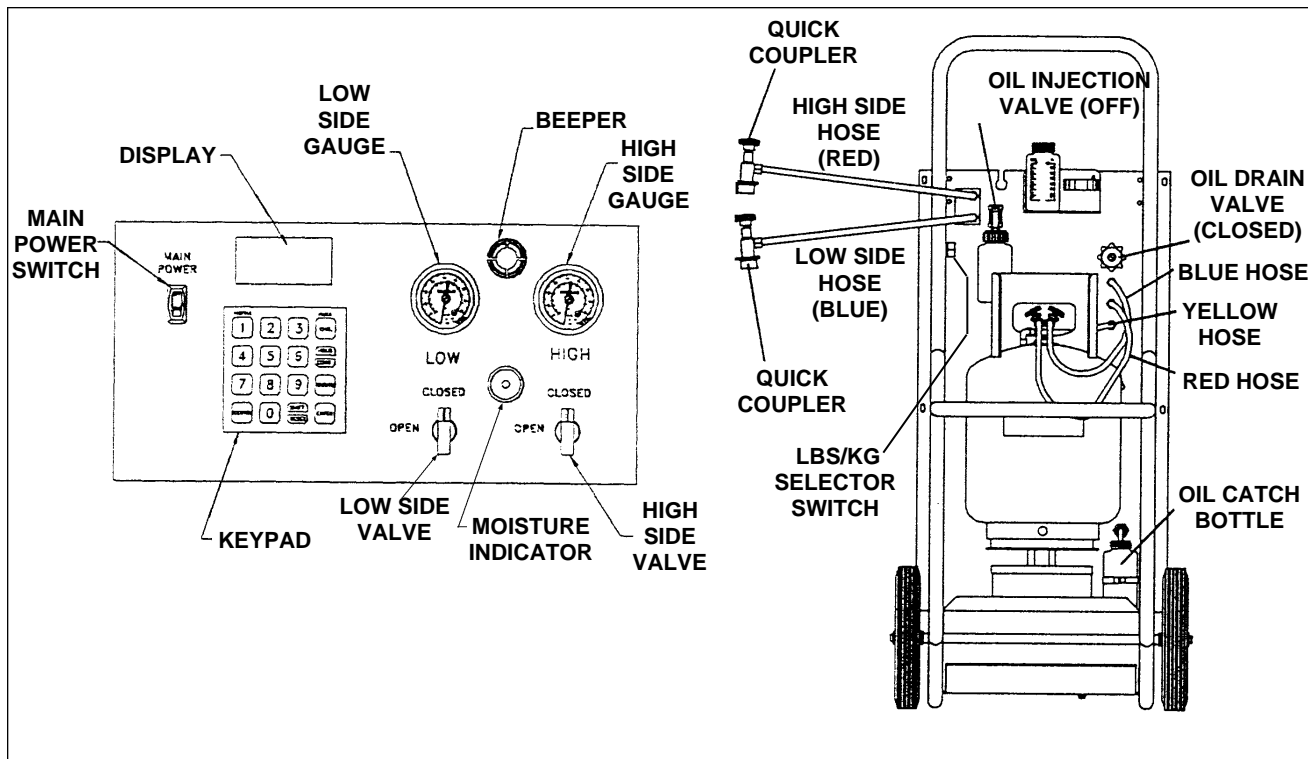
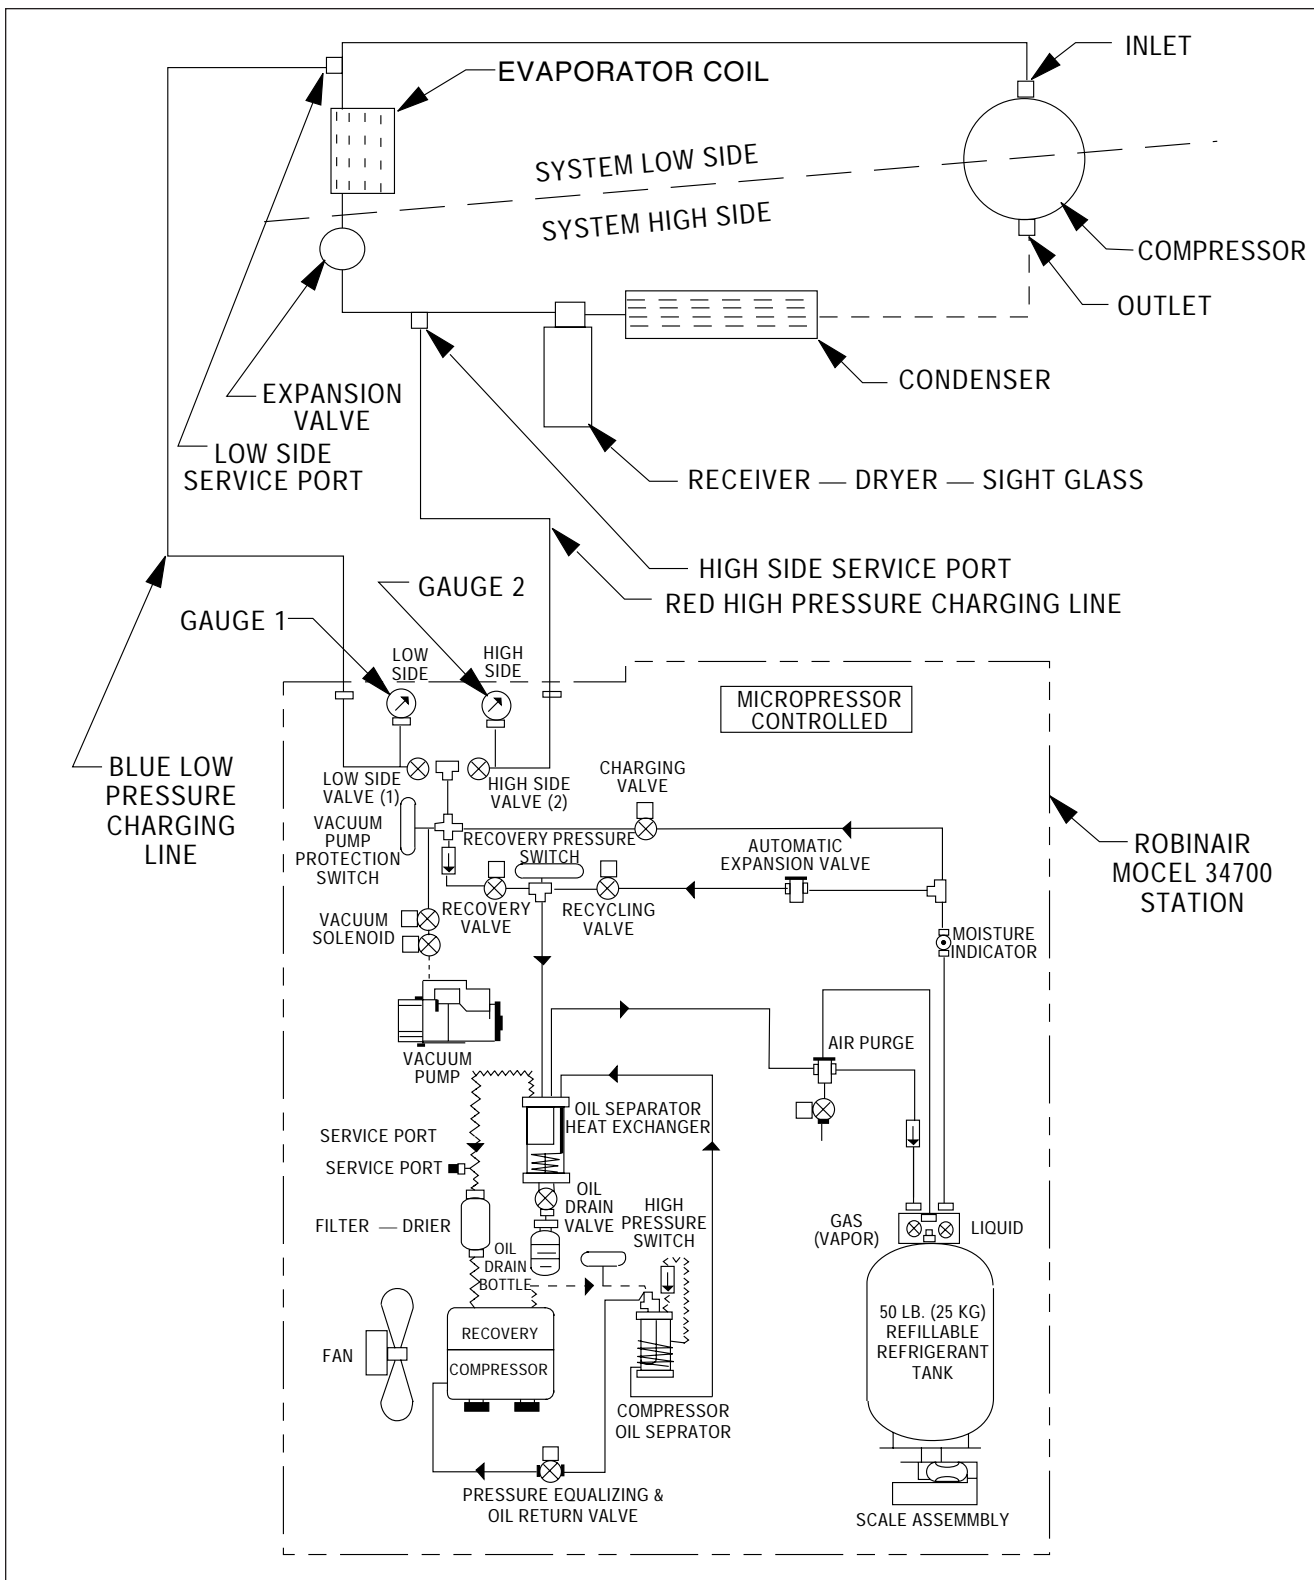

Figure 21-10. Robinair 34700 Control Panel and Hose Connections
Figure 21-11. Robinair 34700 Hose Hookup
- a. **Using the Robinair 34700** (Refer to Figures 21-10 and 21-11)
- (1) Remove access panel at rear of cabin to gain access to service valves.
- (2) Remove protective caps from the high and low side service ports on the evaporator unit.
- (3) Close both the low side and high side valves on charging unit. Refer to Figure 21-10
- (4) Connect the blue and red hoses to the service ports as shown in Figure 21-11. On systems equipped with quick disconnect connections, open coupler valves
- (5) Open blue (low side) valve (1) on unit's control panel
- (6) Open both the red GAS (vapor) valve and the blue LIQUID valve on the *tank*. (Refer to Figure 21-10.)
- (7) Program the length of evacuation time.
- (8) Enter the required time in minutes and seconds (30:00 minutes minimum) by pressing appropriate keys and then ENTER on keypad. The display will show selected time in *minutes and seconds*. Example: one hour and fifteen minutes (1:15) would be entered as 7500. The display will show 75:00. Thirty minutes is entered as 3000. the display will show 30:00.
- (9) To start the vacuum pump press the VACUUM key on keypad again.
- (10) Vacuum sequence will continue for the programmed time. Digital display will then show CPL, indicating that the evacuation is completed.
- (11) If, after 5 minutes of pump operation, the RED gauge does not indicate a little below zero:
- (1) If recharge/test stand is not already connected to system, follow steps 4, a, (1) through (4) above.
- (2) Open the high side (2) valve and allow 1/2 pound of refrigerant to enter the system. Close high (2) side valve. (Refer to Figures 21-10 and 21-11.)
- (3) Locate leak(s) using an electronic leak detector designed to detect R12 and/or R134a refrigerant, as appropriate. Or, use soap and water in a thick solution.
- (4) Repair leak(s).
- (5) Discharge system per paragraph D, 5.
- (6) Perform evacuation procedure per paragraph D, 3, a.
- (7) Immediately perform charging procedure per paragraph D, 6.